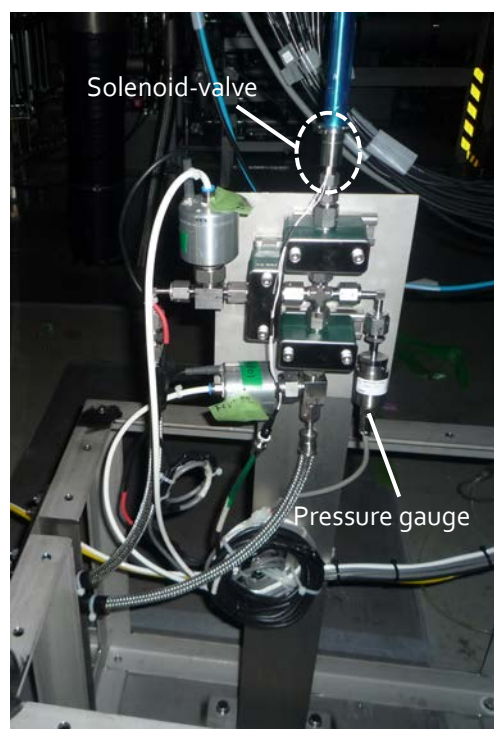

Fig. 5. A photo of the solenoid-valve for SSGP set just below the 3.5L port. Both of the magnetic shield and the neutron shield are not installed yet.
- A solenoid-valve is connected to the Laval nozzle (Fig. 5).